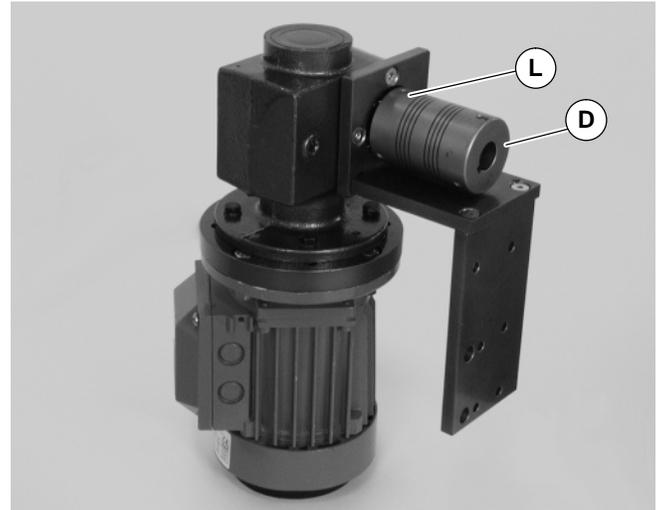

Figure 10
4. Remove two (2) set screws (L of Figure 10) and remove coupling (D).
- Attach coupling (D of Figure 10) to gear reducer shaft. Tighten two (2) set screws (L) to 33 in-lb (3.7 Nm).